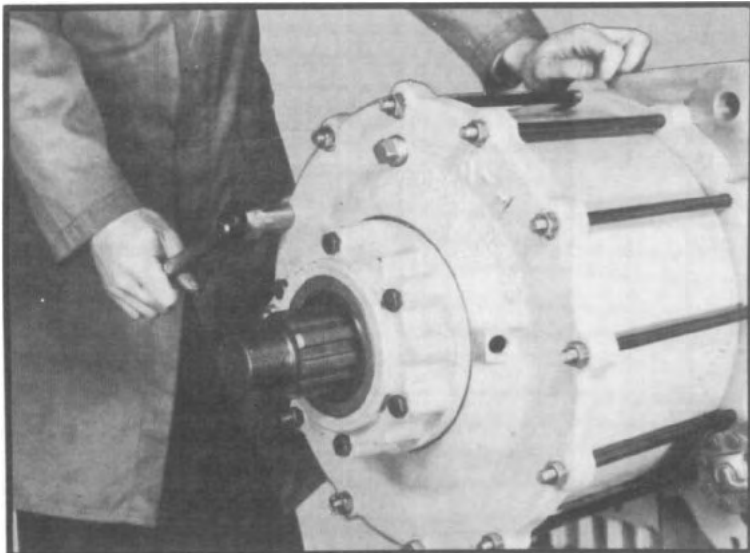
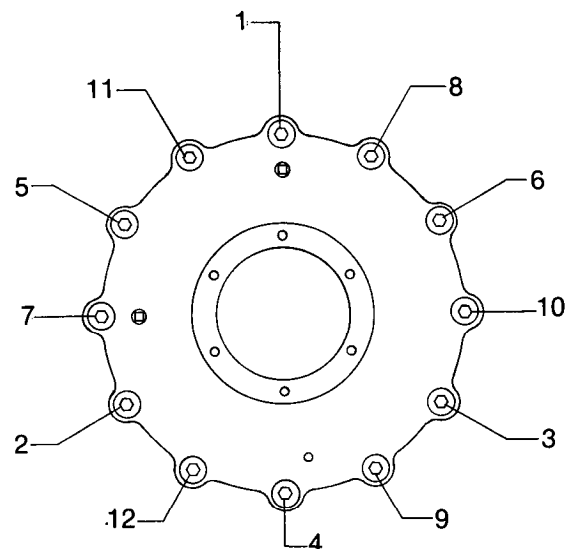

Fig. 135
Fig. 136
2.28 Assemble stud nuts to studs and tighten nuts to correct torque. (See fig. 135 and fig. 136.)
- 3.29 Assemble capscrews to planetary cap and tighten to correct torque. (See fig. 136.)